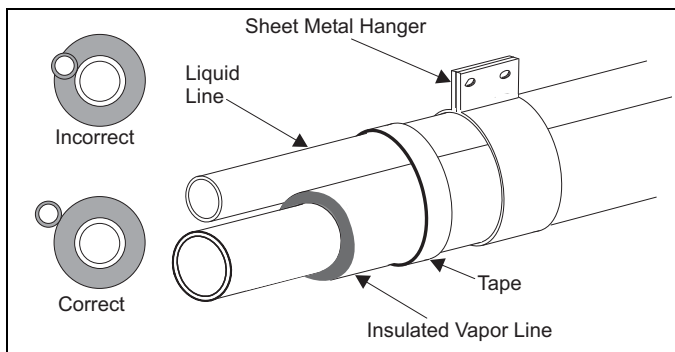

FIGURE 4: Insulation of Vapor Line
- Liquid lines should not be in bare contact with suction line. See Figure 4.